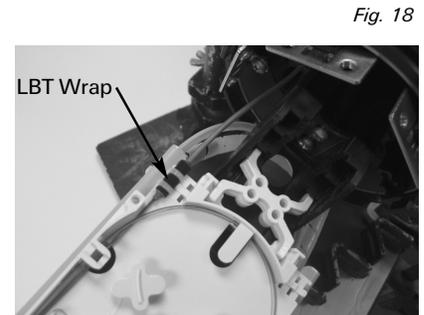

Fig. 18
3. Cut a 1" piece of loose buffer tube (LBT) wrap. (LBT wrap is the soft, black, adhesive-backed strip included in the kit.) Position the tube on the tray and install the LBT wrap around the buffer tube or transportation tube where it will align with the two tie wrap holes in the tray. (Figure 18)